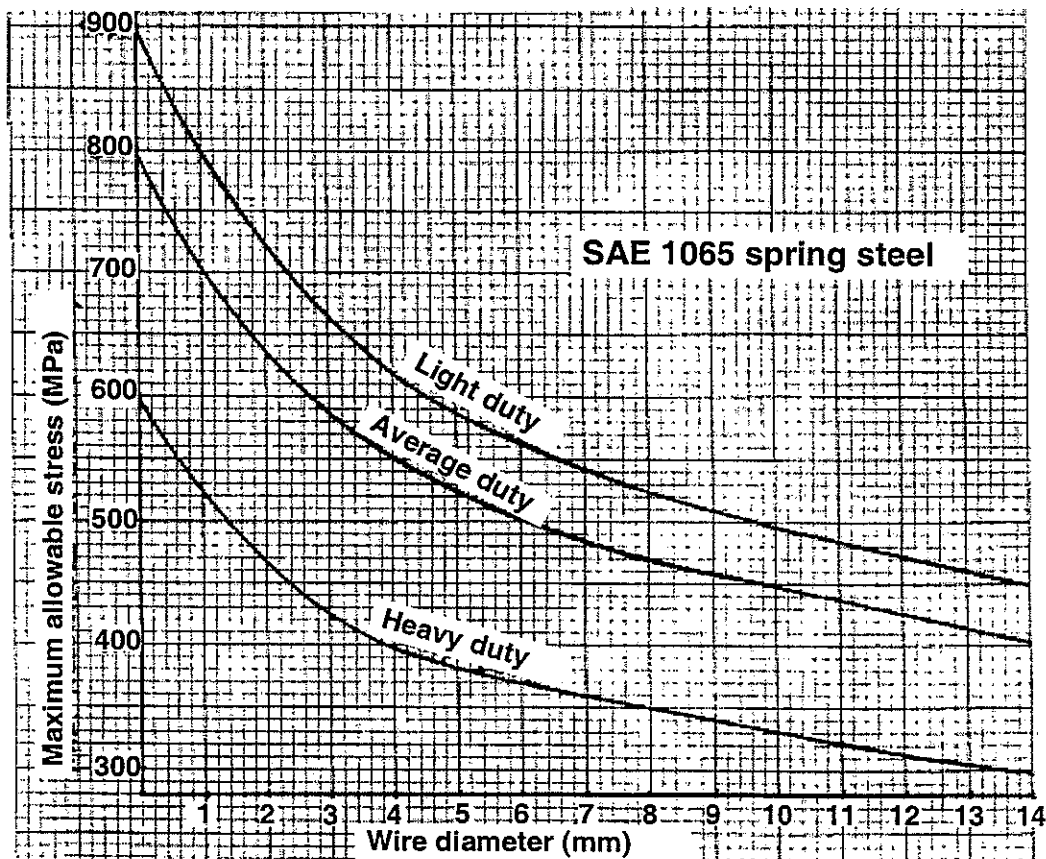

Figure 3 Maximum allowable spring stress
For hard-drawn spring steel SAE 1065 grade, the curves shown in Figure 3 may be used for the maximum allowable spring stress.
2. Determine the maximum allowable stress (if not given) using Table 3 page 259 to determine the duty and the graph Figure 3 page 259 to determine the maximum allowable stress (assuming SAE 1065 spring steel).